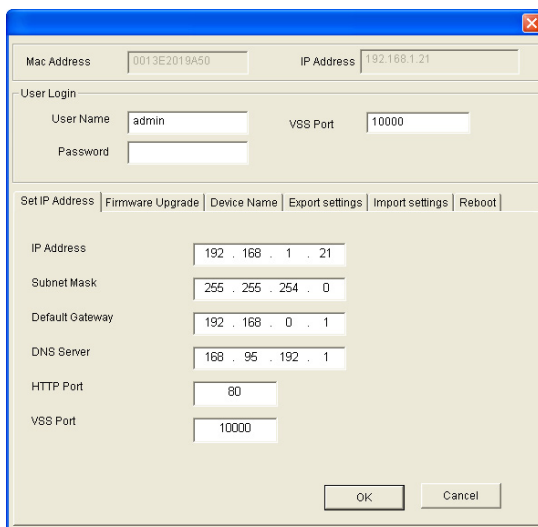

Figure 8-3
2. Double-click the GV-Compact DVR V2 in the list. Figure 8-3 appears.
1. In Figure 8-3, click the **Import Settings** tab. This dialog box appears.